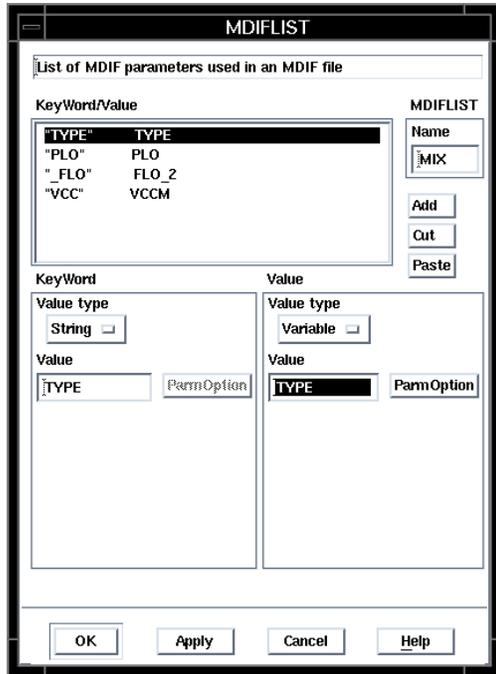

Figure 6. MDIFLIST Dialog Box
2. Add appropriate KeyWords and Values for an MDIF file as shown in Figure 6.
3. Enter the name for the MDIFLIST item. The MDIFLIST item for the LMX2216B mixer shown in Figure 6 is named **MIX**.